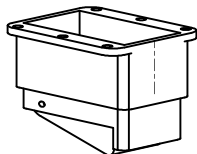

FIG. 2
2. As shown in Fig. 2, mark a centerline of the width of the Top Bracket edge. Then place the top bracket at the soffit of the top frame and align the centerline with the mark that you made in Step 1-1. Close the doors and butt the centerline side to the doors. Make sure the centerline on the top bracket is in alignment with the gap of the two single doors.
3. Mark and drill four (4) hole locations on the soffit as per attached template. Tap the four (4) holes with 5/16-18 thread.